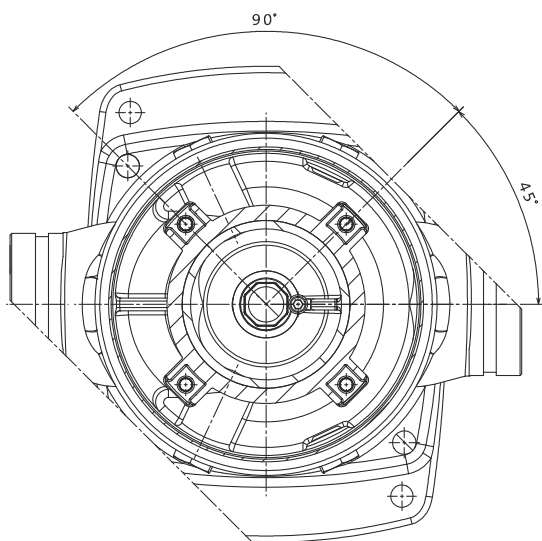

Fig. 6 Placement of straps
Carefully fit the chamber stack into the base (pos. 6), and displace the straps 45° in relation to the staybolts. See fig. 6.